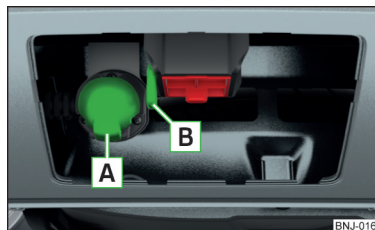

Fig. 141
- Insert the trailer cable into the 13-pin socket **A** » Fig. 141.
- Unhook the breakaway cable of the trailer from the securing eyelet **B** » Fig. 141.